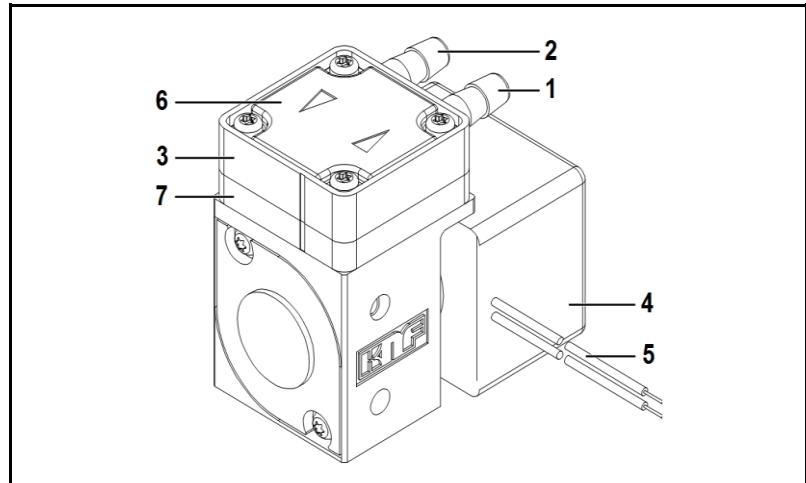

Fig. 1: Diaphragm–Liquid pump NF 10
* Pump head (Fig. 1): contains connection plate and intermediate plate